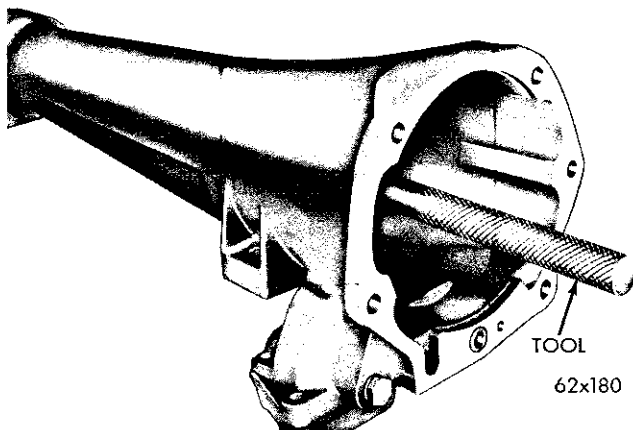

Fig. 40—Removing Outer Shaft Bearing (Imperial Models)
- (1) Pry or drive the oil seal out of the extension housing with a long blunt drift. Be sure not to mar the oil seal surface in the housing.
- (2) Remove the bearing snap ring from the extension housing. Drive the bearing rearward out of the housing with Tool C-3275 (Fig. 40).